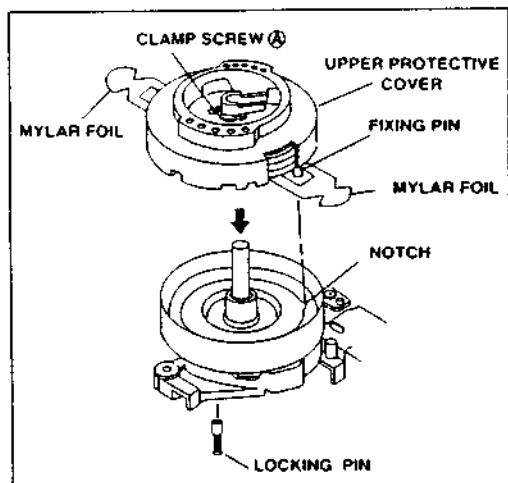

Fig.1-3-5
- 4) Set the protector cover correctly onto the upper drum and insert two mylar foils (Fig. 1-3-5).